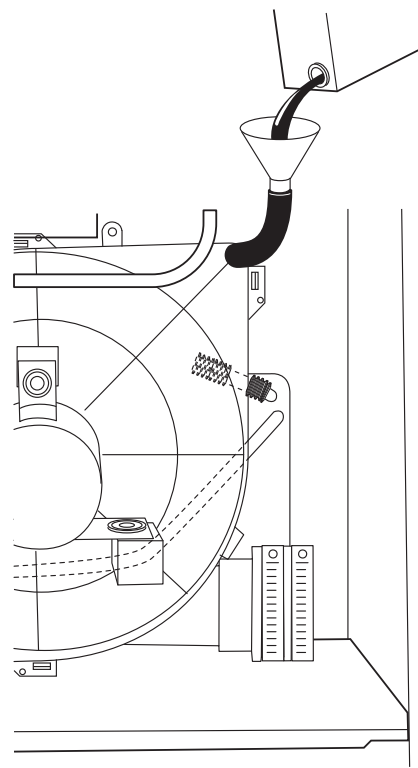

Fig. 51 - Filling Condensate Trap
4. Pour 1 quart of water into funnel/tube. Water should run through inducer housing, overflow condensate trap, and flow into open field drain. (See Fig. 51.)